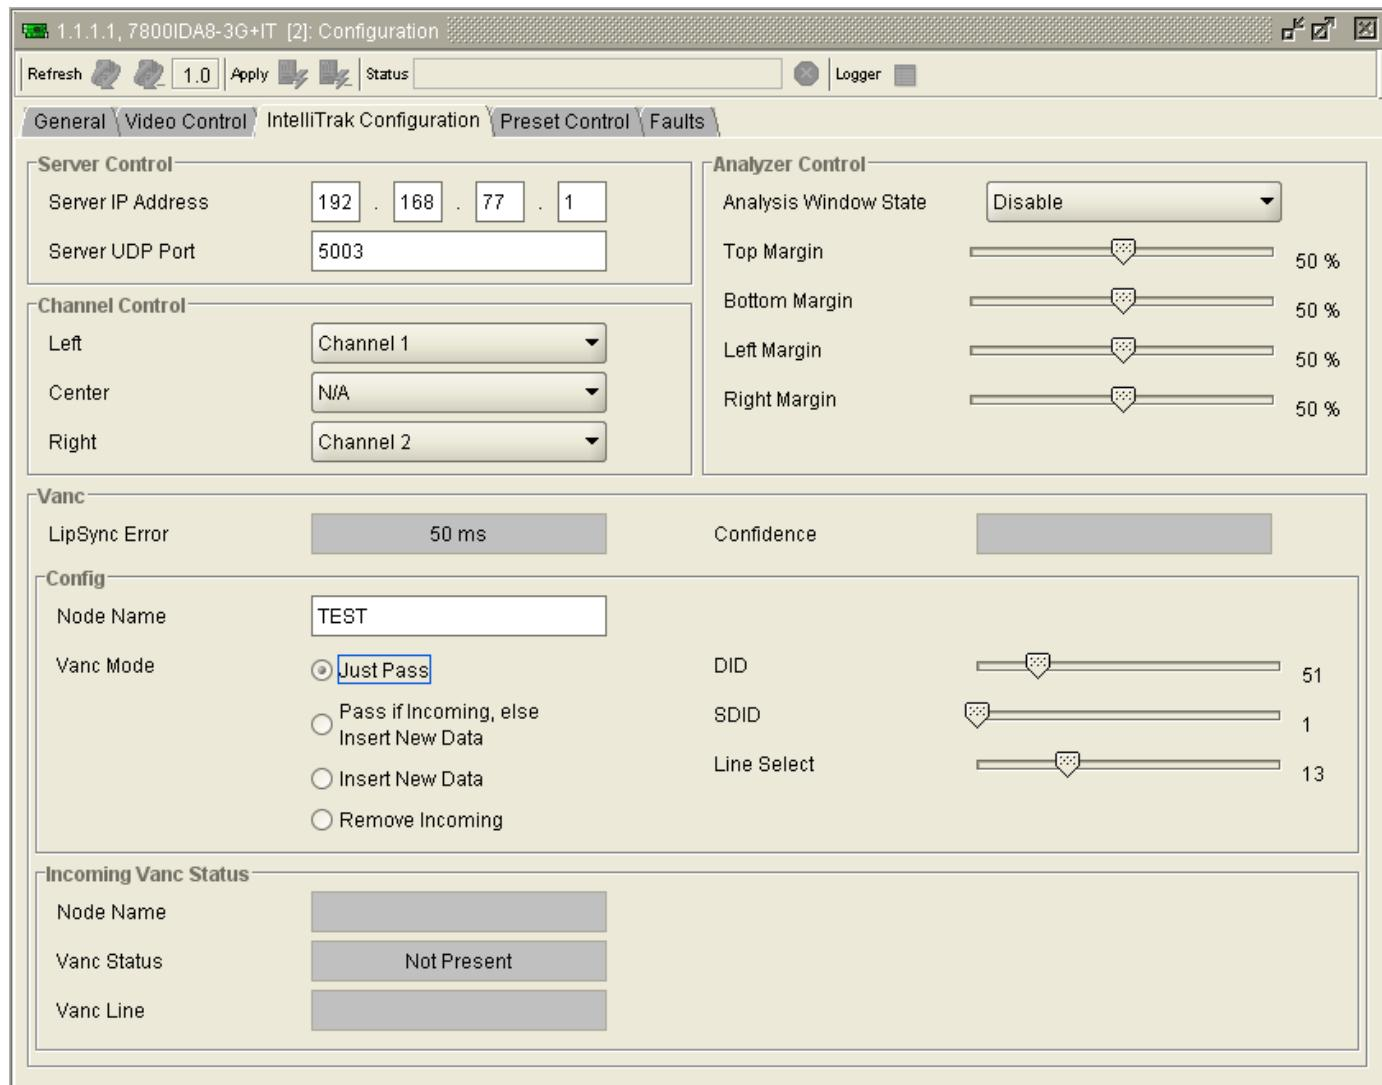

Figure 3-2: IntelliTrak™ Configuration Tab
1. Open the configuration of the first 7800IDA8-3G, and go to the ‘IntelliTrak™ Configuration’ page (as shown below in Figure 3-2).